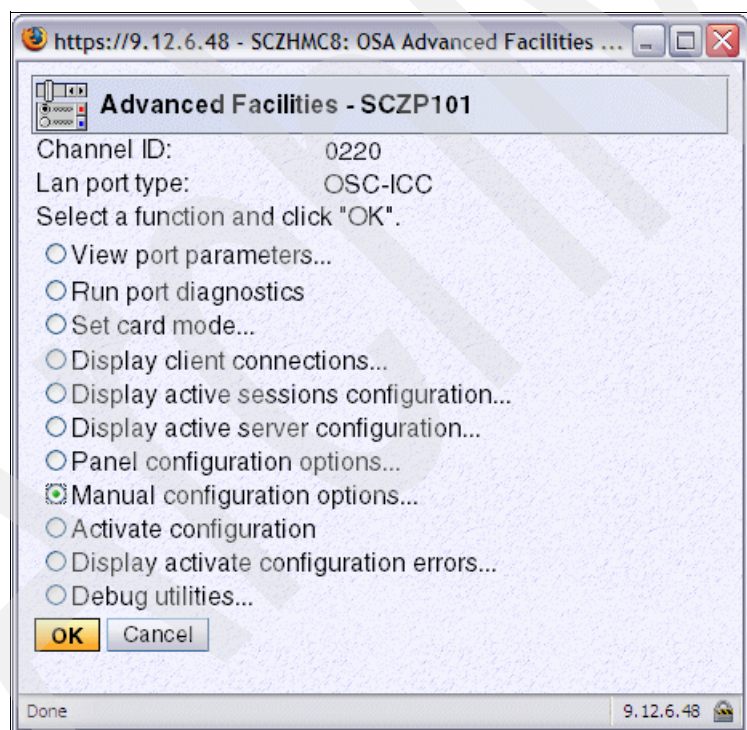

Figure 3-40 HMC - OSA Advanced Facilities (Manual config)
6. Select the radio button **Manual configuration options...** and click **OK** (Figure 3-40).